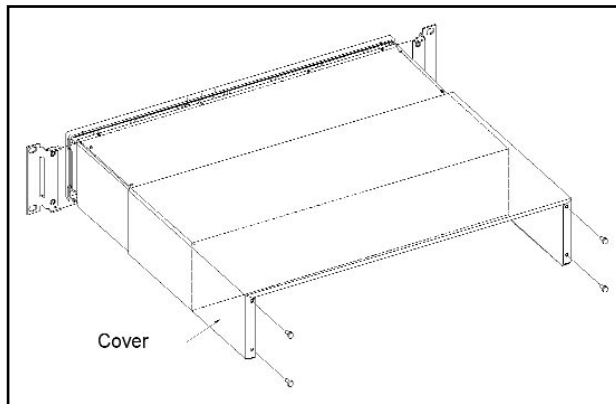

Figure 1 - Cover and Rack Brackets Removal
- The top cover is fastened to the case by four (4) screws located on the rear of the unit. Remove these screws as shown in Figure 1.